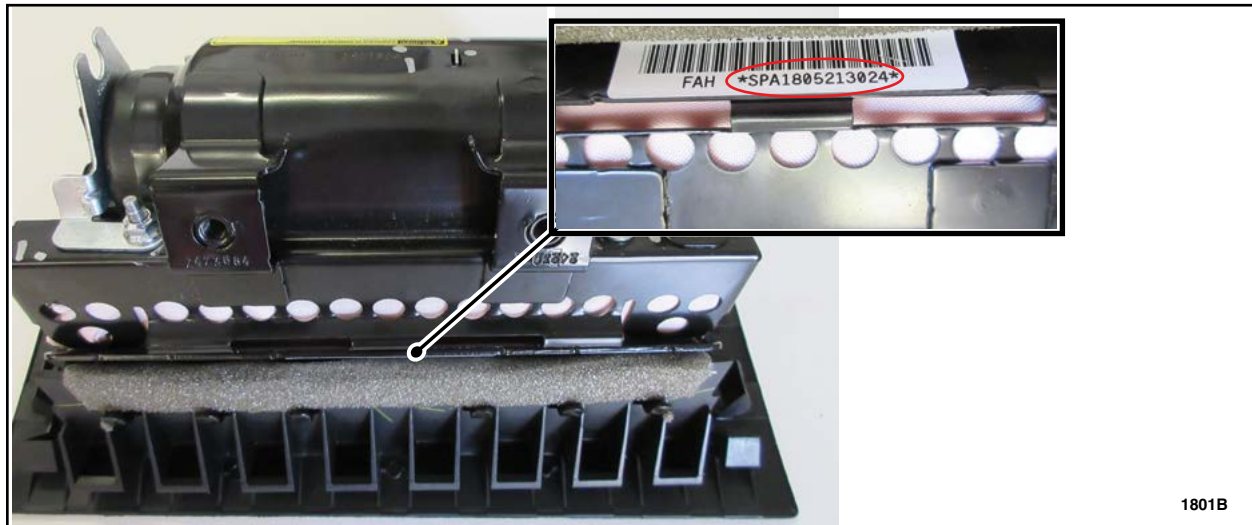

FIGURE 1
1. Record the 13 character serial number of the *new* airbag module on the repair order. See Figure 1.